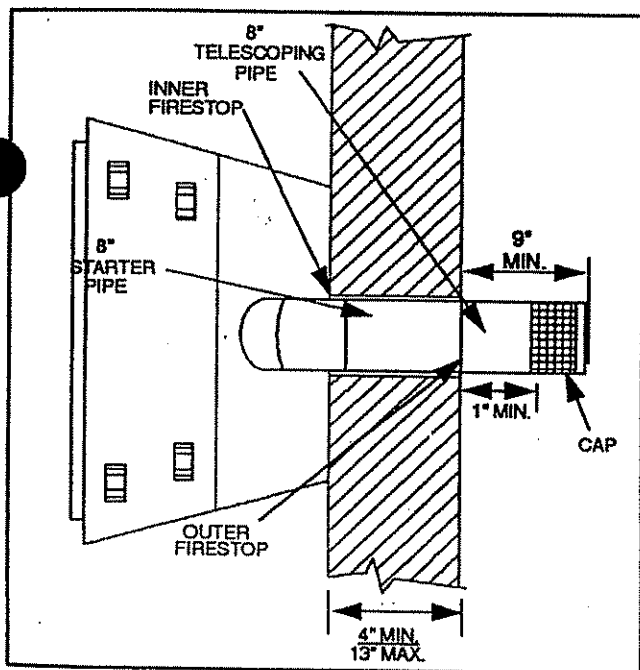
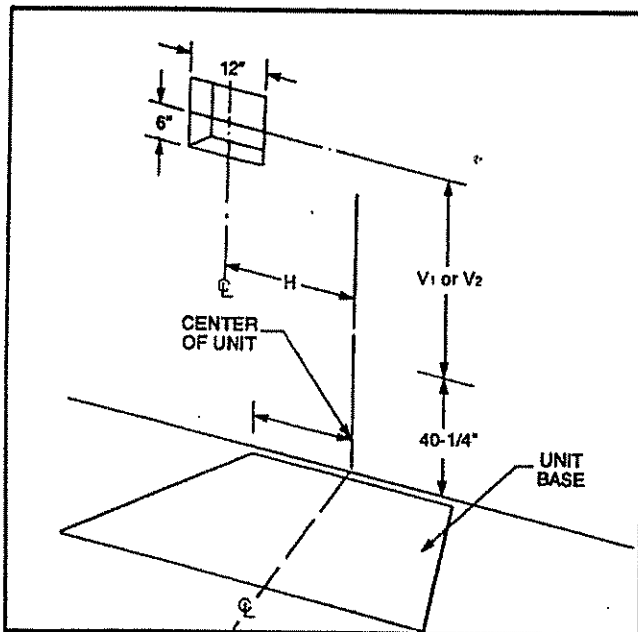

Fig. 2. Straight out installation (4" — 13" wall thickness).
Fig. 8. Hole dimensions.
3. Four (4) corner supports. (Example: Four (4) concrete masonry blocks.) These supports must be positioned so they contact all four (4) perimeter edges on the bottom of the unit.
If the appliance is installed directly on carpeting, tile or other combustible material other than wood flooring, it should be installed on a metal or wood panel extending the full width and depth of the unit. There are three (3) basic types of installations. (See Figs. 2, 3, 4, 5 and 13.)
After the appliance has been positioned in its permanent location, the hole through the exterior wall of the house can be cut. This hole needs to be 12" square with its center line determined by the amount of vertical rise and horizontal run of the termination. (See Figs. 2, 3, 4 and 5.) When locating the hole it must be noted that the bottom of the cap must be 12" above the ground level, and top of the cap must be no less than 18" below a combustible projection, and no closer than 9" to any wall running parallel to vent termination. (See Figs. 8, 9 and 10.)